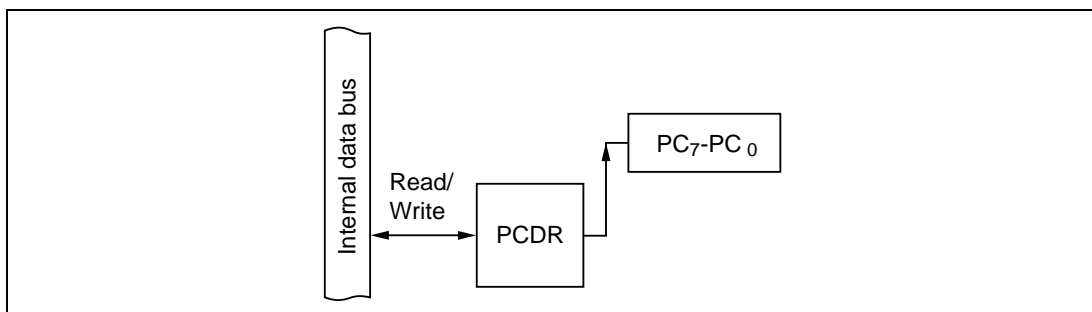

Figure 10-89 Output Port (Mode 7)
(3) **Output Port (Mode 7):** Figure 10-89 shows a block diagram illustrating the general-purpose output function. Table 10-66 indicates register read/write data. The value written in the port C data register (PCDR) is output at the pin. When read, PCDR returns the value written in PCDR.